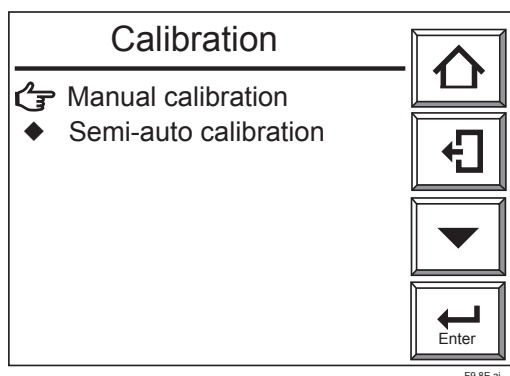

Figure 9.11 Calibration Display
- (1) Press the [Setup] key in the Basic panel display to display the Execution/Setup display. Then select "Calibration" from the Execution/Setup display. The Calibration display shown in Figure 9.11 appears.